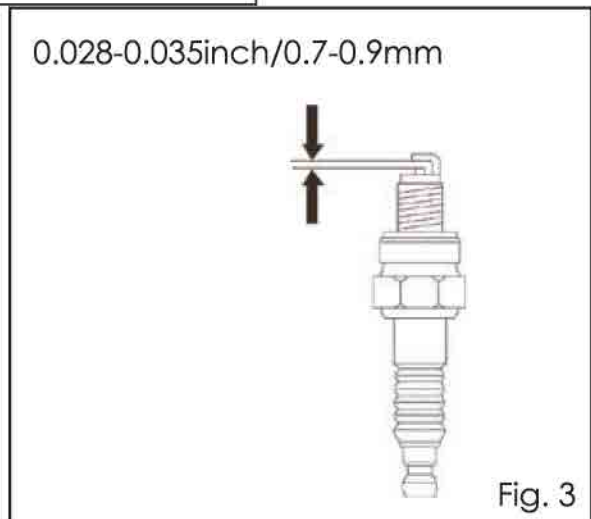

Fig. 3
5. Use a spark plug gauge to measure the plug gap (Fig. 3). The gap should measure 0.028-0.035inch/0.7-0.9mm. You can adjust the gap by adjusting the side electrode.